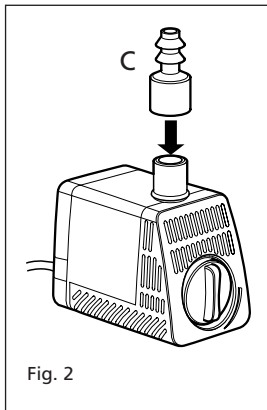

Fig. 2
Position the pump in the pond or water feature ensuring that it is fully submerged in water at all times whilst the pump is running. The connection to the outlet of the pump can be made with 12.5mm (1/2") bore hose by using the hose adaptor. See Fig 2 (C).
- Fit a suitable length of hose 12.5mm bore hose on to the hose adaptor. See Fig 2 (C).